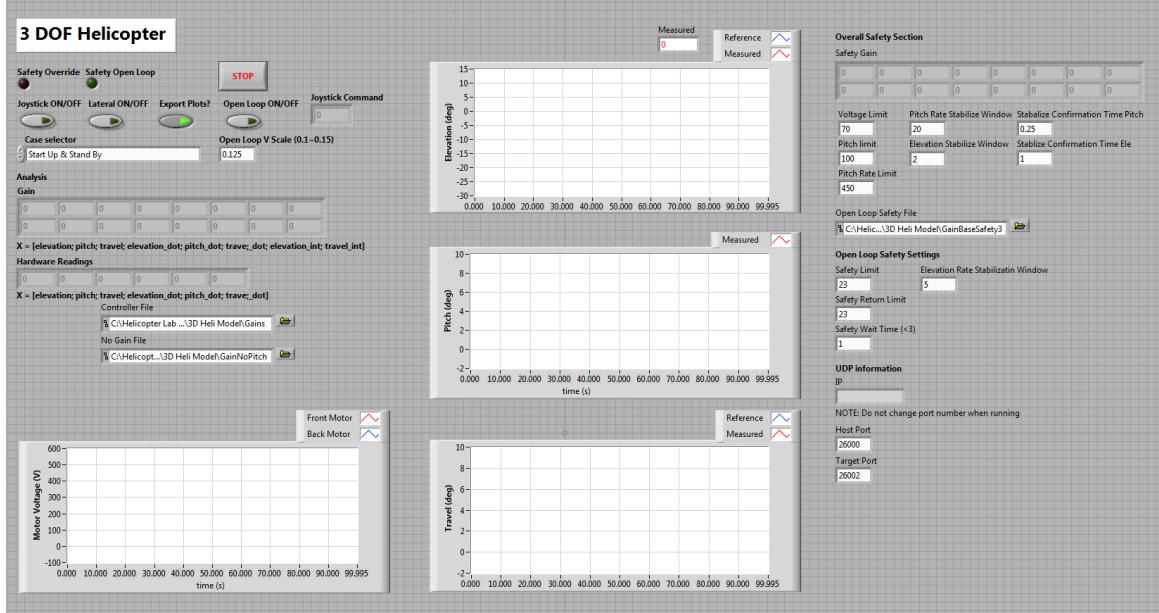

Figure 4: LabVIEW VI used to run the closed-loop controller on the 3 DOF Helicopter.
If this happens in the openloop manual control experiment (section 2.3.1), the green **Safety Open-Loop** light will illuminate (see figure 4). Do not worry as you will be given back the control authority after the light goes off momentarily.
1. Open the **Main 3D HELI Control VI** (figure 4), that is used to run the 3 DOF Helicopter experiment.
2. In the Main 3D HELI Control VI (figure 4), configure the panel with Joystick OFF, Lateral OFF, Export Plots ON and Open-Loop Off. Make sure the Case selector is at Start Up & Stand By